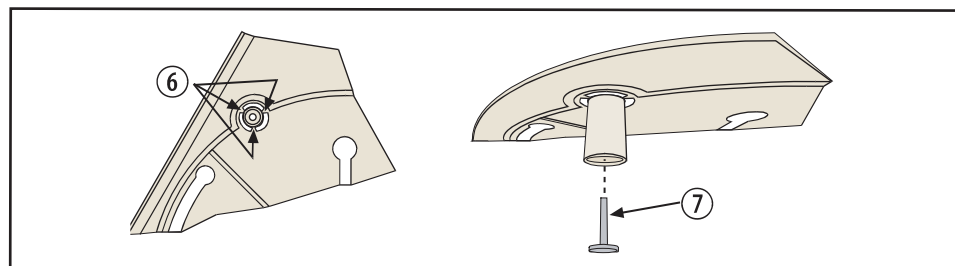

Figure 3.4: Ceiling Tamper
- If ceiling tamper is desired, loosen the tamper post by cutting the 3 tabs (6) and mount the post to the ceiling using a #8 screw (7). Refer to Figure 3.4 Ceiling Tamper.